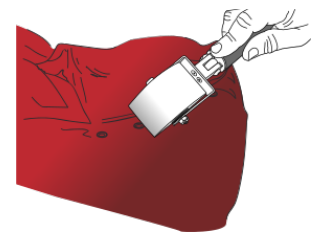

Figure 19
- › Then slide the ROLLRIV (FIG. 19) over the film to adhere it to the entire rivet surface. Press it around the entire rivet using a squeegee or your thumb.